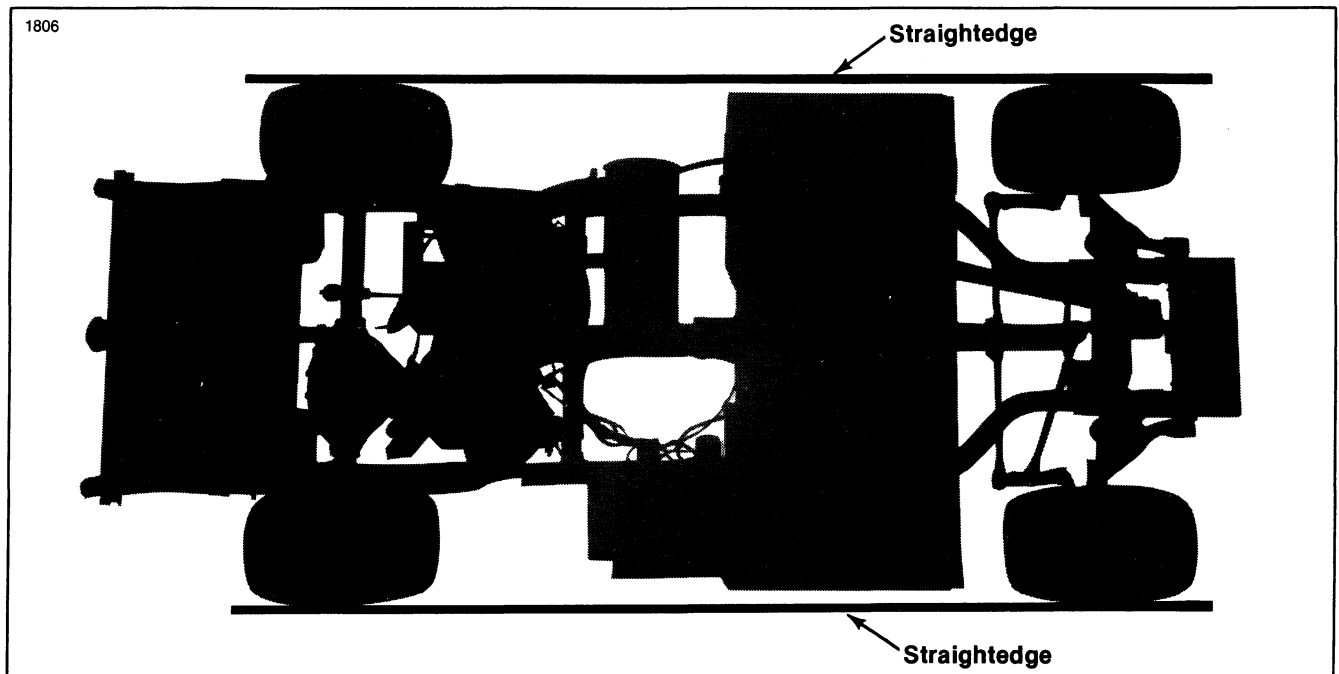

Figure 2-21. Checking Wheel Alignment
4. See Figure 2-21. Check alignment of right front wheel first with long straightedge extending from right rear wheel to right front wheel. Right front wheel should be in alignment with the rear.
6. See Figure 2-21. Now check alignment of left front wheel with straightedge extending from left rear wheel to left front wheel. Left front wheel should be in alignment with rear.